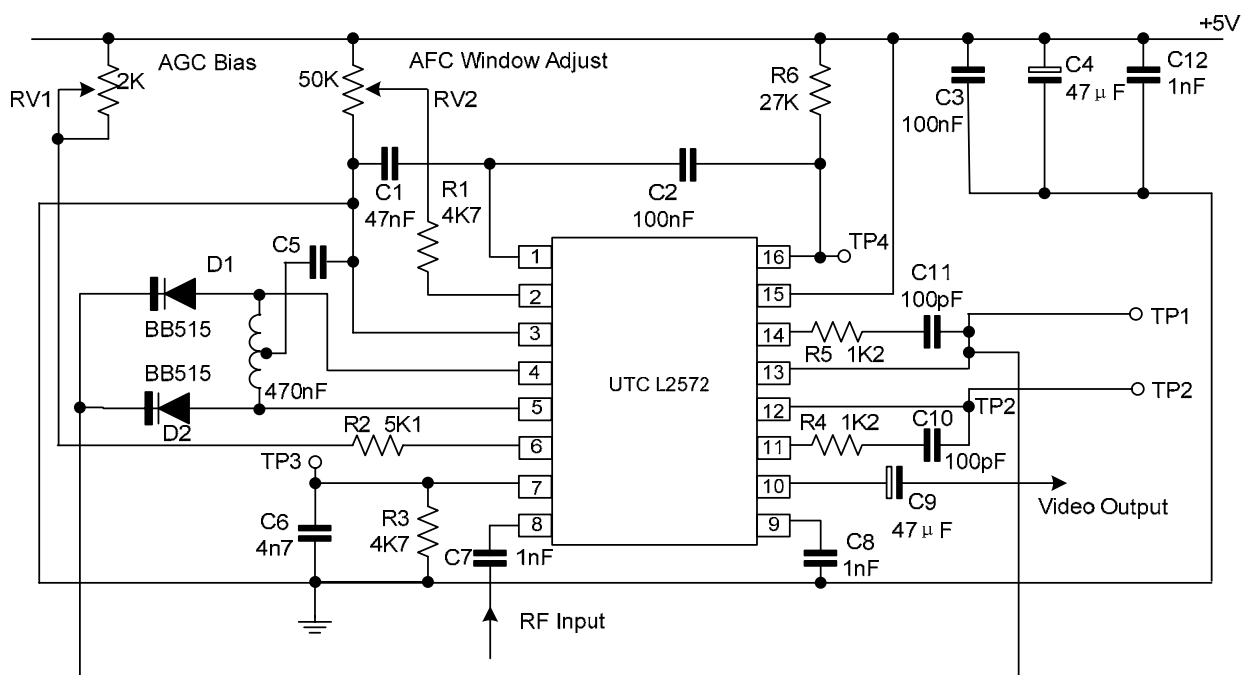
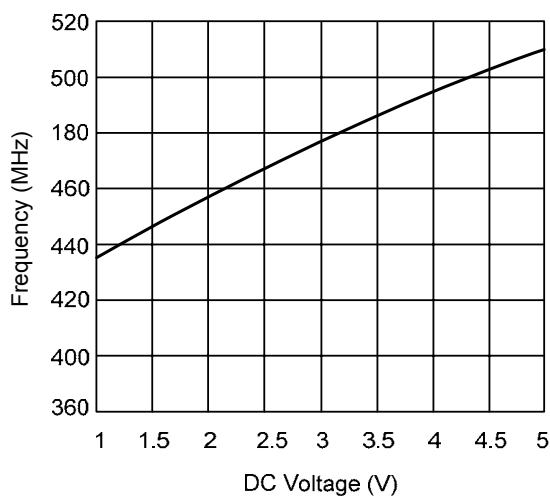
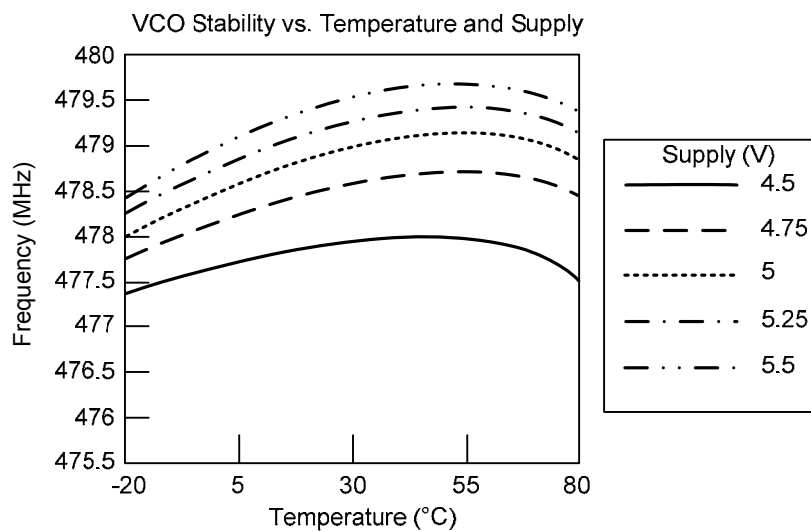

Fig. 1 Application Circuit
Fig. 3 Typical VCO Frequency vs. DC Control Voltage
Fig. 4 VCO Centre Frequency Uncompensated Temperature Stability
5. Assuming ambient temperature of +20°C and operating frequency of 479.5MHz set with V_{CC} @ 5.0V. Only applies to application shown in Fig. 1 also refer to Fig. 4.
The UTC L2572 is optimized for application in satellite receiver systems and requiring a minimum external component count is a wideband PLL FM demodulator. It includes all the elements required to construct a phase locked loop circuit, with the exception of an AFC detector circuit for generation of error signal to correct for any frequency drift in the outdoor unit local oscillator, and tuning components for the local oscillator contains a block diagram and Fig. 1 contains the typical application.
The preamplifier's output is fed to the mixer section which is of balanced design for low radiation. In this stage the RF signal is mixed with which is generated by an on-board oscillator, the local oscillator frequency. The oscillator block is optimized for high linearity over the normal deviation range and uses an external varactor tuned sustaining network. Fig. 3 contains a typical frequency versus voltage characteristic for the oscillator. Fig.4 shows the typical stability that the loop output is designed to compensate for first order temperature variation effects.